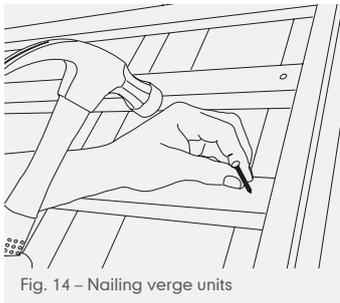

Fig. 14 – Nailing verge units
- Secure the verge extrusion by driving annular ring shank nails through each tiling batten (40mm from the end) into the extrusion (Fig 14). Alternatively, fix with masonry nails, drill out, then plug and screw to top of gable (if brickwork).